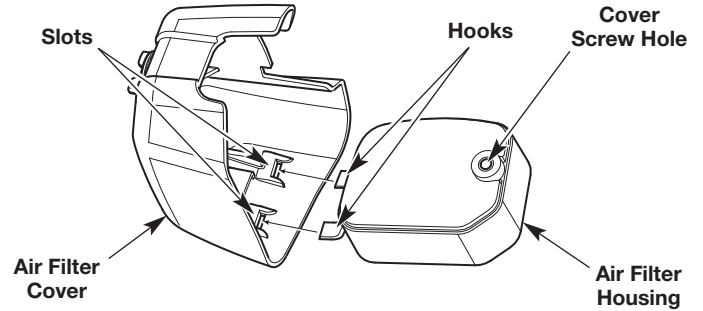

Fig. 11
7. Reinstall the air filter cover. Insert the hooks on the air filter housing into the slots on the air filter cover (Fig. 11).
8. Swing the air filter cover to the right and align the cover screw with the cover screw hole (Fig. 11). Tighten the cover screw to secure the air filter cover.